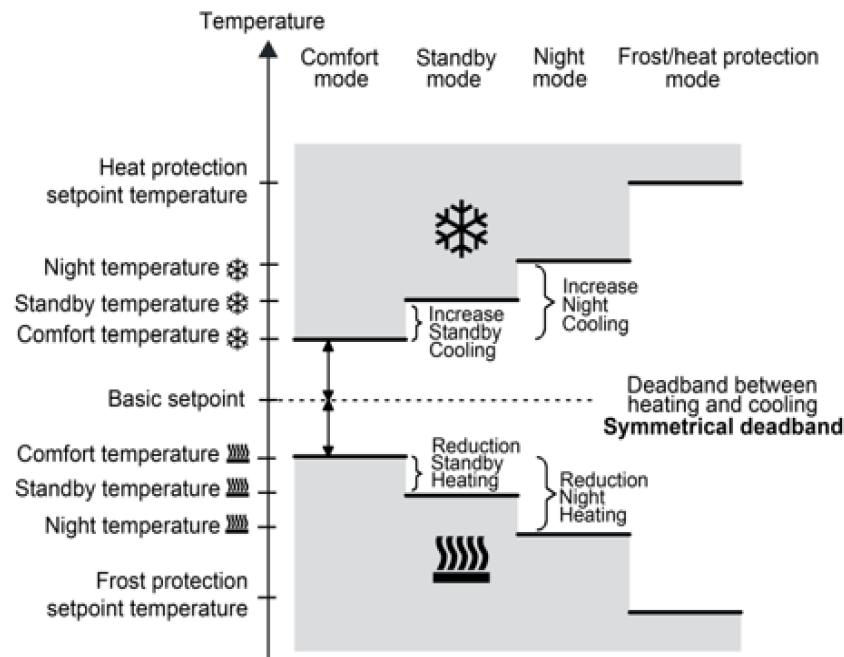

Figure 30: Overview of temperature adjustment in the controller
The controller has separate setpoints for each operating mode. If you follow the KNX design guidelines, these are all dependent on the base setpoint (see figure 30). This dependency makes it possible for the controller to switch between heating and cooling independently, since each setpoint can be clearly assigned as “too warm” or “too cold”.
The controller has separate setpoints for each operating mode, all of which are dependent on the basic setpoint. Standby heating and night heating are each to be understood as relative values to comfort mode. The adjustment always has a reducing effect on the setpoint temperature. This means that night mode/standby mode for heating always has a lower (or at most the same) setpoint temperature as comfort mode (see figure 30).
The opposite is true for cooling: Here, specifying the night/standby adjustment always increases its setpoint temperature compared to the base setpoint (see figure 30).
The sizes shown in figure 30 are KNX standardized behaviour. All parameters can be adjusted accordingly using the MeTa² application. The basic setpoint can be shifted via the bus.
- In night mode, only the difference between this mode and the basic setpoint temperature is changed. As figure 30 shows, in heating mode the night mode setpoint temperature is always less than or equal to the comfort temperature. Therefore, adjustment in heating mode is only possible up to this temperature. Conversely, in cooling mode, the adjustment is less than or equal to the comfort temperature of cooling mode. Adjustment is therefore only possible up to this temperature.
- In standby mode, only the difference between this mode and the basic setpoint temperature is changed. The same applies here: As figure 30 shows, in heating mode the setpoint temperature for standby mode is always less than or equal to the comfort temperature. Therefore, in heating mode, adjustment is only possible up to this temperature. Conversely, in cooling mode, the adjustment is less than or equal to the comfort temperature of cooling mode. Adjustment is therefore only possible up to this temperature.